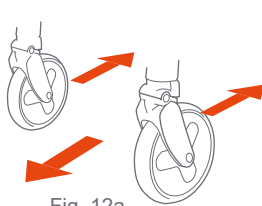

Fig. 12a
- Pull the stroller backward several inches so that the wheels point straight ahead (Fig. 12a).